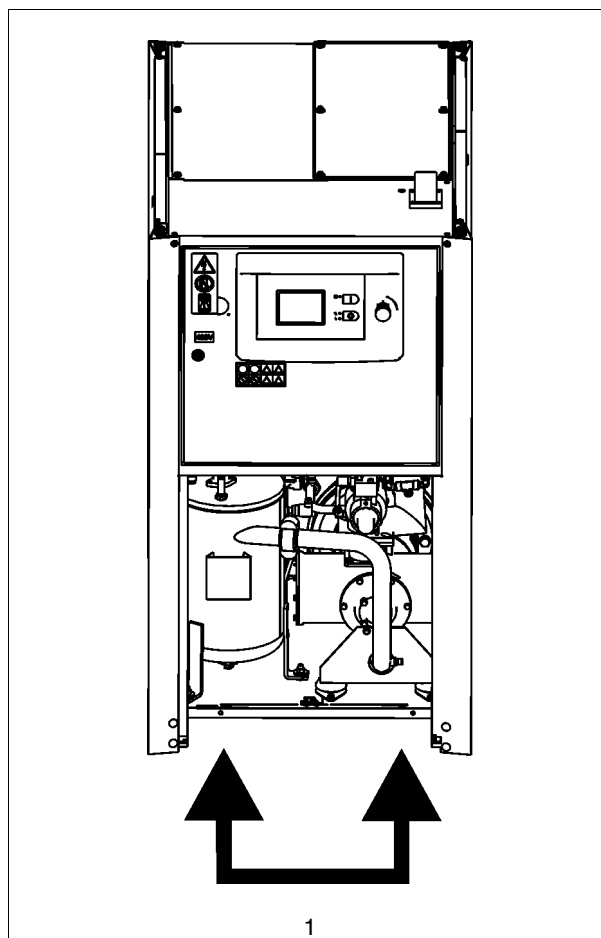

Fig. 4
- Keep the distance between the forks (see Fig. 4) and their length in mind when transporting the compressor.